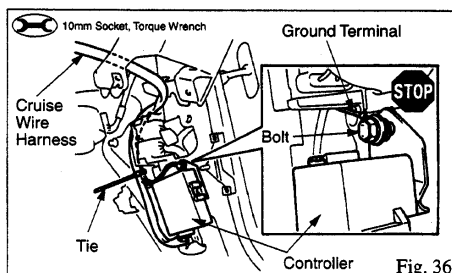

Fig. 36
- (12) Route the wire as shown in figure, and install the controller and (L) (ground terminal) together by tightening the bolt. (1 Bolt) (1 tie strap) (Fig. 36)
- (13) Connect the (A) (Female, Black, 16Pin) connector to the controller. (Fig. 36)